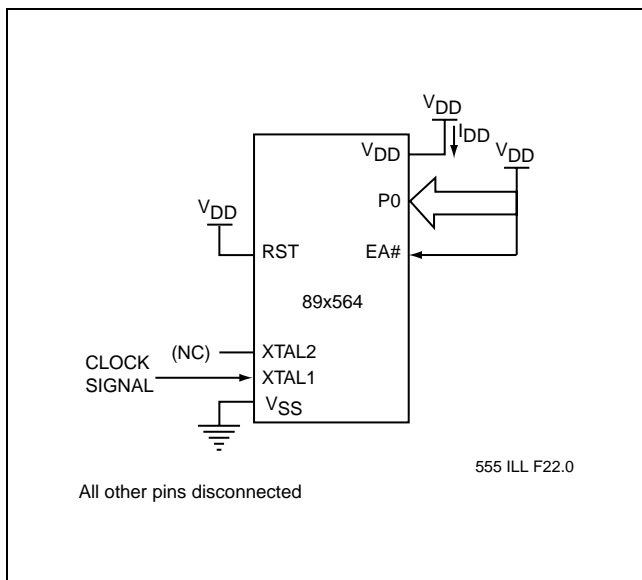

FIGURE 11-1: I_{DD} TEST CONDITION, ACTIVE MODE
- See Figures 11-1, 11-2, 11-3 and 11-4 for test conditions. Minimum V_{DD} for Power Down is 2.0V.